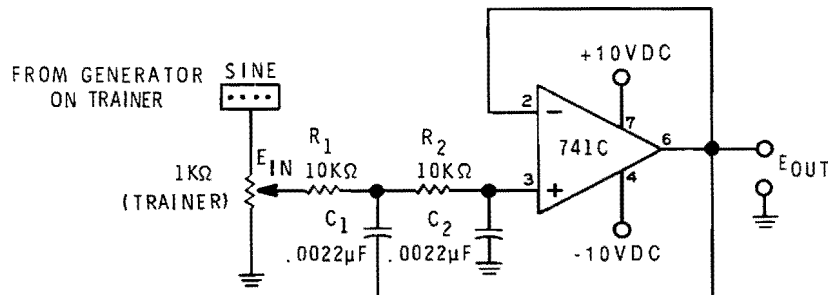

Figure 3-75
The first circuit you will investigate is the **low-pass filter**. A simple low-pass active filter is shown in Figure 3-75. This filter is different from the one discussed earlier. Here, the input signal is applied through a low-pass filter to the **noninverting** input. The output is applied back to the inverting input so the op amp acts as a voltage follower. That is, it has a very high input impedance, a very low output impedance, and a gain of one.
2. Construct the circuit shown in Figure 3-75.